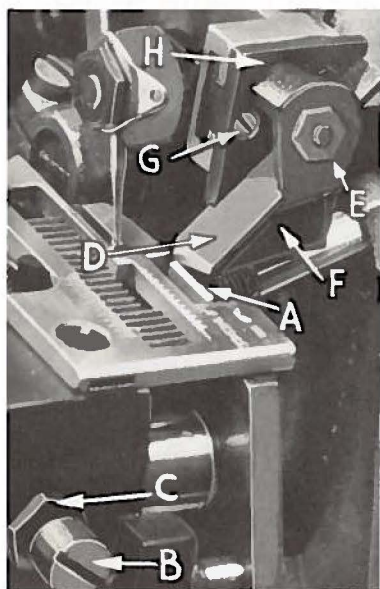

Fig. 12
Replace upper knife assembly. Clamp upper knife (D, Fig. 12) in position, setting nut (E) to hold clamp (F) in its most clockwise position against upper knife. At
the bottom of its stroke, front cutting edge of upper knife should extend not less than  $1/64$  inch below cutting edge of lower knife. The chain guard (not shown in Fig. 12) should be set down against the upper knife and slightly back from the cutting edge.